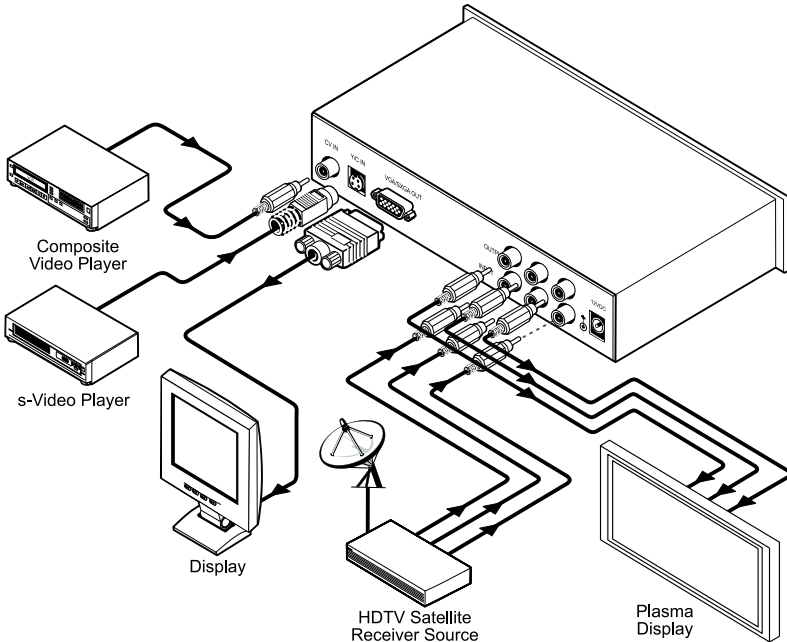
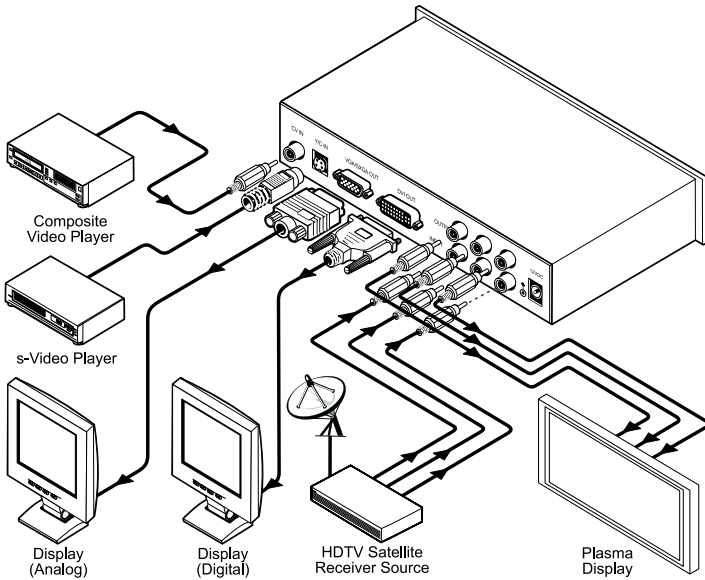

Figure 3: Connecting the VP-715 Video To SXGA / HD Scaler
Figure 4: Connecting the VP-716 Video To SXGA / DVI / HD Scaler
To connect the Scaler unit, connect the following to the rear panel, as the examples in Figure 3 (**VP-715**) and Figure 4 (**VP-716**) illustrate:
7. Connect the 12V DC power adapter (wall transformer) to the 12V DC socket (not illustrated in Figure 3 / Figure 4) and connect the transformer to the mains electricity.